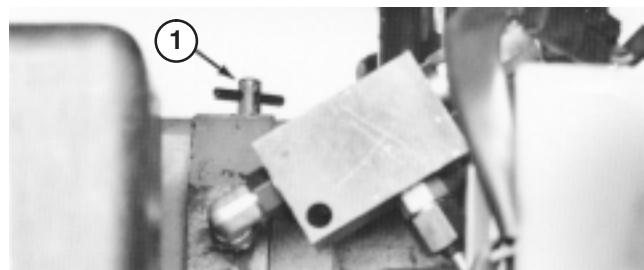

Figure 16
1. Reach in and rotate bypass valve on transmission (Fig. 16) counterclockwise 1/2 to 1 turn. Opening the valve opens an internal passage in the pump, thereby bypassing transmission oil. Because fluid is bypassed, the machine can be pushed without damaging the transmission.